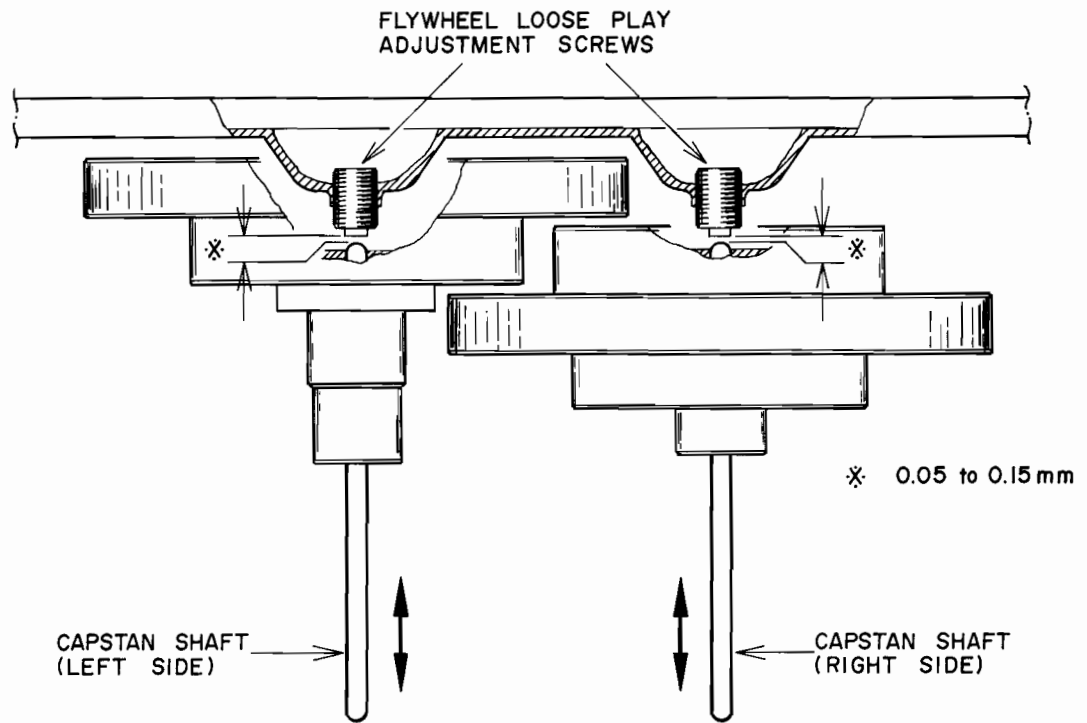

Fig. 8
1. FLYWHEEL LOOSE PLAY ADJUSTMENT (Refer to Fig. 8)